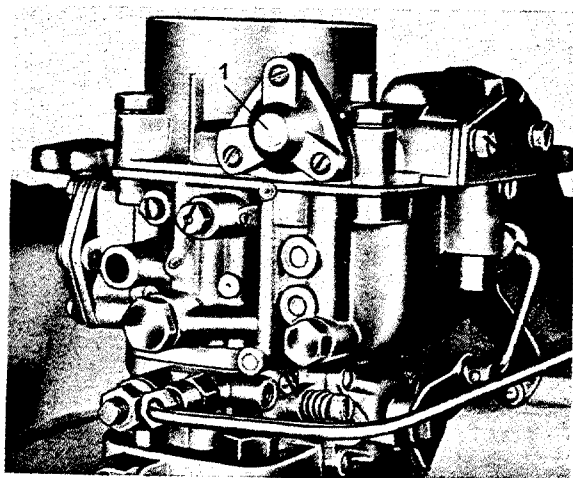

Fig. M 33/2
Type 220a: Loosen three screws of starter air valve (1), take off cover with diaphragm and diaphragm spring (Fig. M 33/2).
3. Turn float fastening screw (1) out and take out float (Fig. M 33/6).